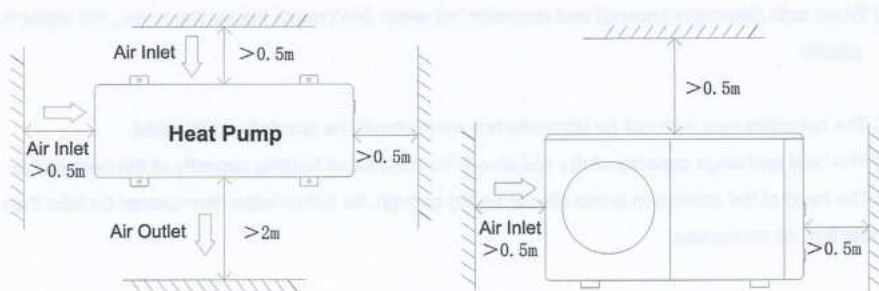

Figure 1
4. For easier and better maintenance and troubleshooting, no obstacles around the unit should be closer than 1m. And no obstructions within 2m, vertically, from the unit for air ventilation. (See Figure 1)